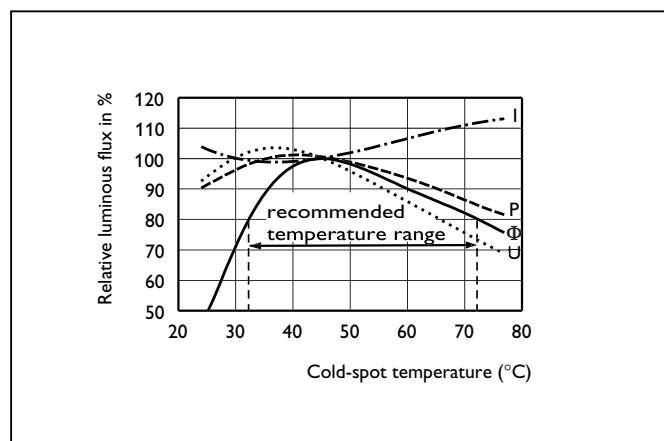

Figure 4.4.1: MASTER PL-L lamp characteristics in relation to cold-spot
Relative values of luminous flux ( $\Phi$ ), lamp voltage (U), lamp current (I) and lamp wattage (P) as a function of the **cold-spot** temperature and measured on reference ballast are given in figure 4.4.1.